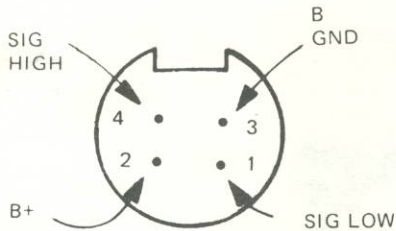

Figure 2-8. Pinout functions of 1560-P42 preamplifier.
The 1560-P42 Preamplifier provides impedance matching between the microphone and instrument, and an optional gain of 20 dB (refer to para 3.6.2). Its 4-pin output connector, which is recessed in one end of its casing, mates with the instrument's 4-pin input connector, which is recessed inside its nose cone. Figure 2-8 shows the pinout functions of the preamplifier; Section 6 contains component-layout and schematic diagrams of the preamplifier.
b. Observe the recessed 4-pin male connector inside metal casing on the end of the microphone extension cable. Note that this connector also has a small, rectangular "alignment notch" (see Figure 2-8) that mates with the notch on the recessed nose-cone connector.